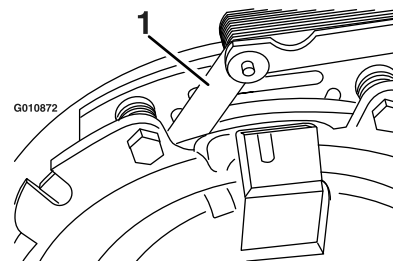

**Figure 83**
- B. Using needle-nose pliers, or by hand, hold the tab and remove the shim (Figure 83).
Remove any buildup of grass, dirt, or other debris from the engine screen. This helps ensure adequate cooling and correct engine speed and reduces the possibility of overheating and mechanical damage to the engine (Figure 83).